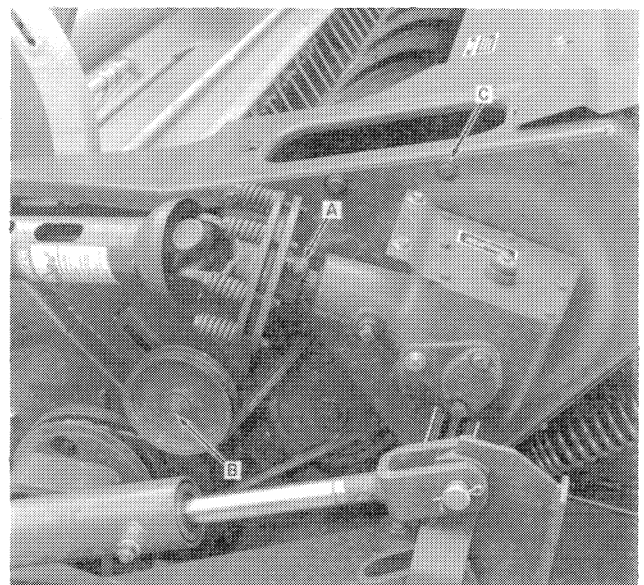
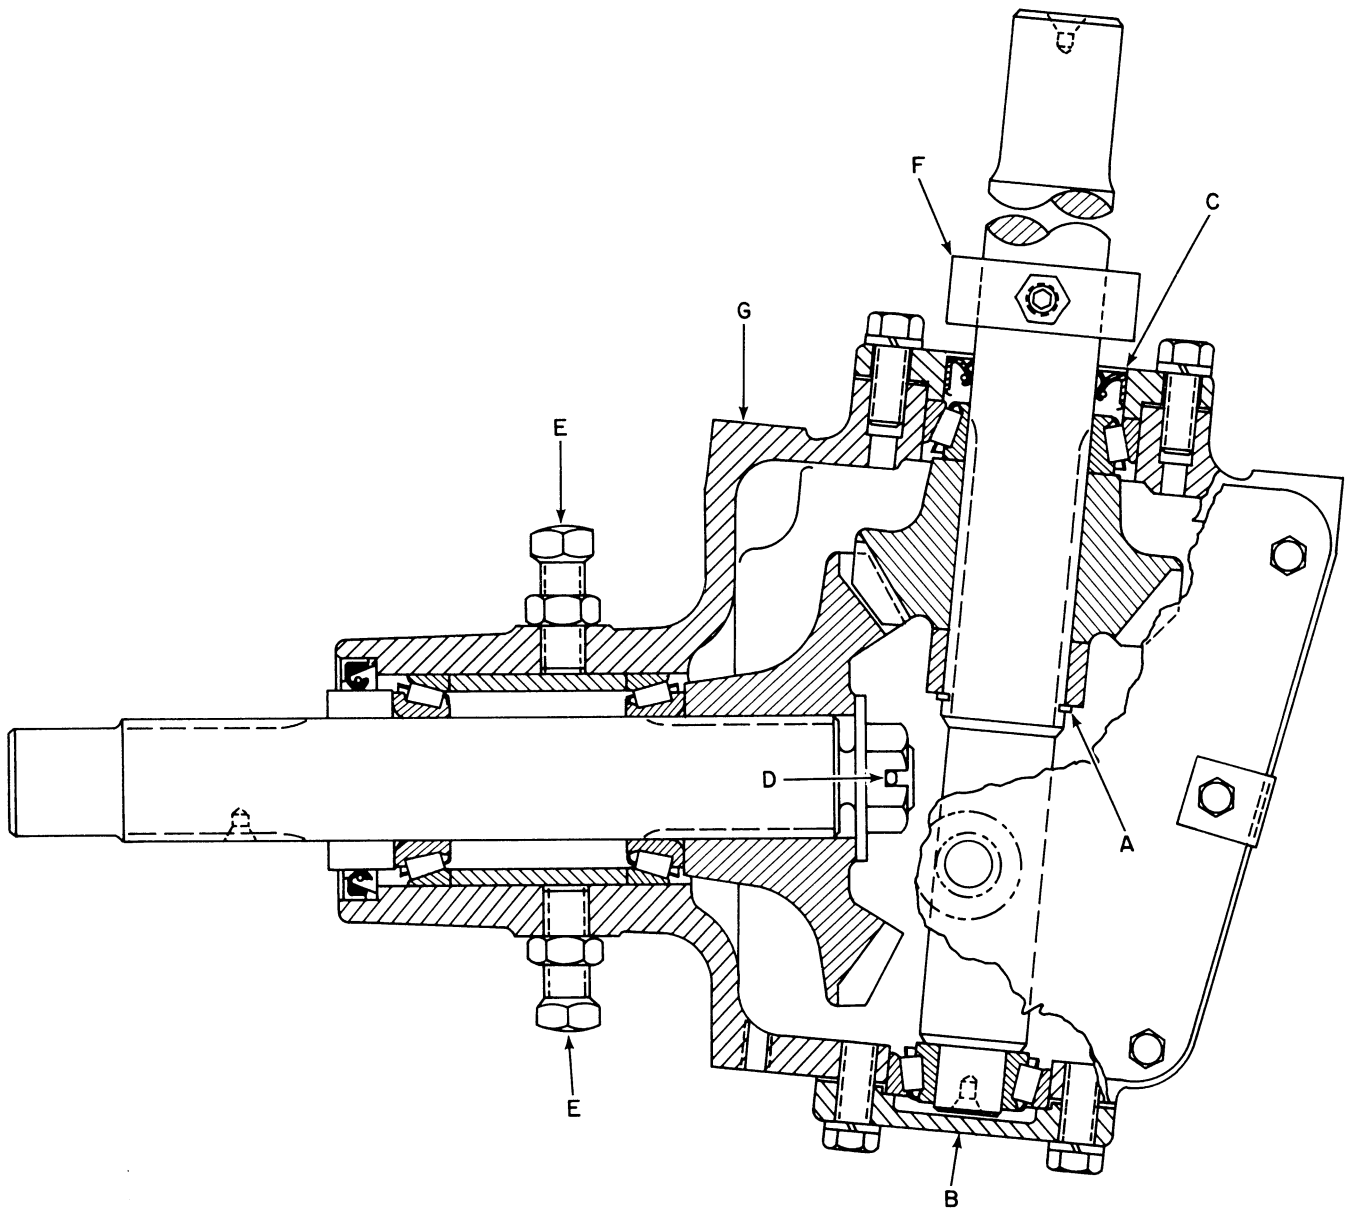

FIGURE 10
FIGURE 11
1. Remove the PTO cover as shown in Figure 10.
2. Loosen the jam nut and setscrew at A, Figure 10, and remove the slip clutch assembly from the input shaft.
4. Loosen the sickle drive belt idler, B, Figure 10, and slip the belt off the drive sheave on the gearbox output shaft.
6. Remove the gearbox mounting plate bolts, C, Figure 10. Remove the gearbox and plate as one assembly. **BE CAREFUL NOT TO LOSE THE OVERRUNNING CLUTCH PINS AND SPRINGS.** (Two are used on older Model 477's and four on older Model 479's.) Remove the clutch sprocket, shims, spacer, and sheave hub. Be sure to remember how the shims and spacer were installed.
with collar, F, Figure 11. On units that do not have the overrunning clutch, the hub is a part of the roll drive sprocket weld assembly.
2. Remove snap ring, A, Figure 11, from the output shaft. Remove bearing caps, B and C, Figure 11.
4. Remove cotter pin, D, Figure 11, nut and flat washer from the input shaft.
5. Loosen setscrews, E, Figure 11, and remove the shaft assembly. Remove the bearings and spacer.
1. Install the bearings and spacer on the input shaft. Install the shaft in the gearbox and install the bevel gear, flat washer, and nut. Tighten the nut to obtain 5-10 in. lbs. (0.56-1.13 N·m) torque on the bearings and shaft assembly. Install cotter pin, D, Figure 11, and the oil seal. **DO NOT TIGHTEN THE SETSCREWS.**
2. Install the output shaft, bearing cup and cone and bearing cap, C, Figure 11. Use the same number of shims used previously if the original bearing is used. If a new bearing is being used, the number of shims required must be determined. Example: if the slip of paper with the new bearing has a 12 on it, the gearbox may have "18" stamped on the lower machined surface at G, Figure 11, and the bearing cap, C, Figure 11, may have a "5" stamped on it. This means all three numbers must be added, for a total of 35. This total indicates shims must be used giving a total of 0.035". Shims are available in sizes 0.003", 0.005", 0.007", and 0.020". This method will insure that the mounting distances between the shafts and gears are correct. Use Permatex® on the bearing cap bolts.
4. The backlash between gears must be 0.004" to 0.012" at the closest point. To adjust, move the input shaft assembly as required and tighten setscrews, E, Figure 11, to 50 ft. lbs. (68 N·m) torque. Tighten the jam nuts.
5. Fill the gearbox with API GL5 80W-90 multipurpose gear lubricant to the bottom hole of bearing cap, B, Figure 11. Install the cover and clip (if 1000 RPM).
**NOTE: Make sure that collar, F, Figure 11, is installed in its original position on the Models 479 and 488. Tighten all mounting plate bolts, C, Figure 10.**
4. Install the slip clutch assembly. Make sure setscrew, A, Figure 10, and the jam nut are securely tightened. Install the PTO cover.